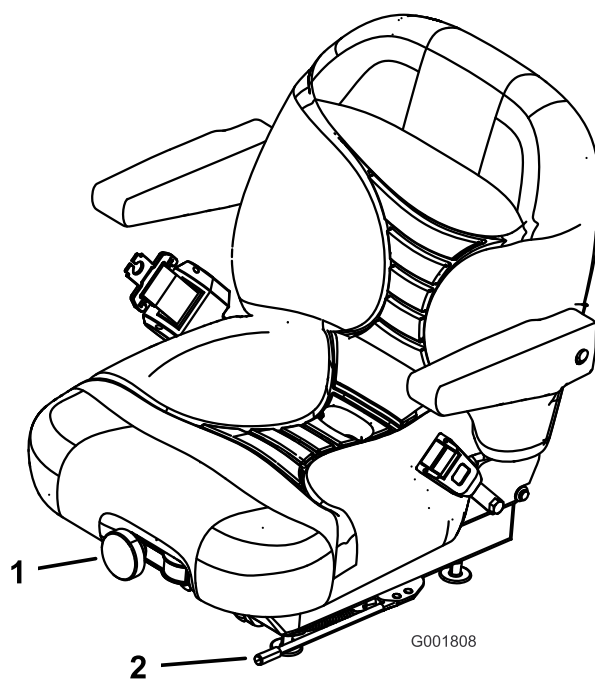

Figure 26
1. To adjust, move the lever sideways to unlock seat (Figure 26).
To adjust it, turn the knob in front either direction to provide the best comfort (Figure 26).